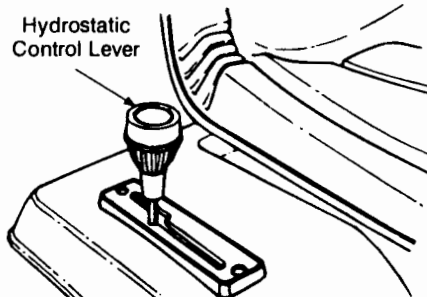

FIGURE 8
The hydrostatic control lever is located on top of the fender on the right side of the tractor. This single control lever, connected to the hydrostatic transmission, controls both the speed and direction of the tractor. Infinite speed control is achieved by moving the control lever forward or backward. The farther forward or backward you move the control lever, the faster you will travel. Pulling the control lever into neutral (N) area will stop the tractor. See figure 8.